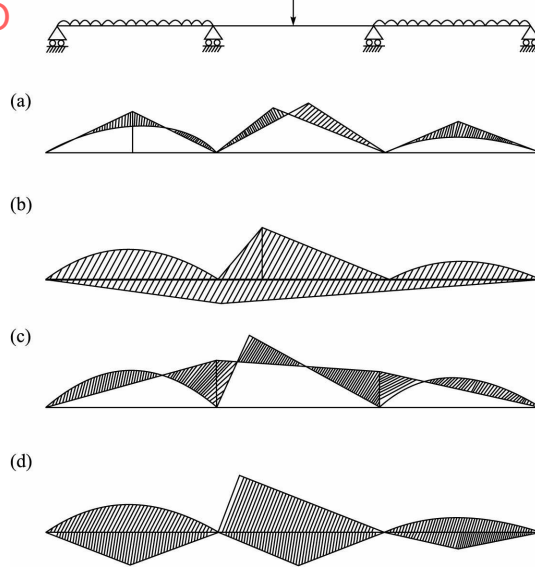

Fig. Q. 65
65. Figure shown in Fig. Q. 65 is a continuous beam with uniform flexural rigidity. Options (a) to (d) represent shapes of bending moment diagrams. Select the correct options